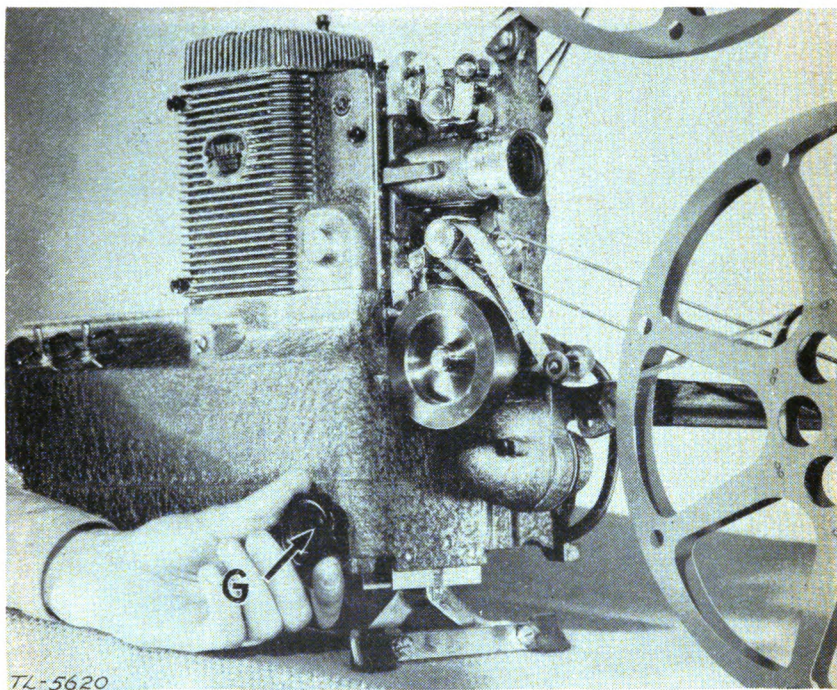

FIGURE 9.—Elevator knob on Ampro YA projector.
*c.* Turn elevator knob *G* (figs. 9 and 10) on front of base to raise or lower image on the screen. On the front of the R. C. A. model there are two knobs so that the image may be leveled also.